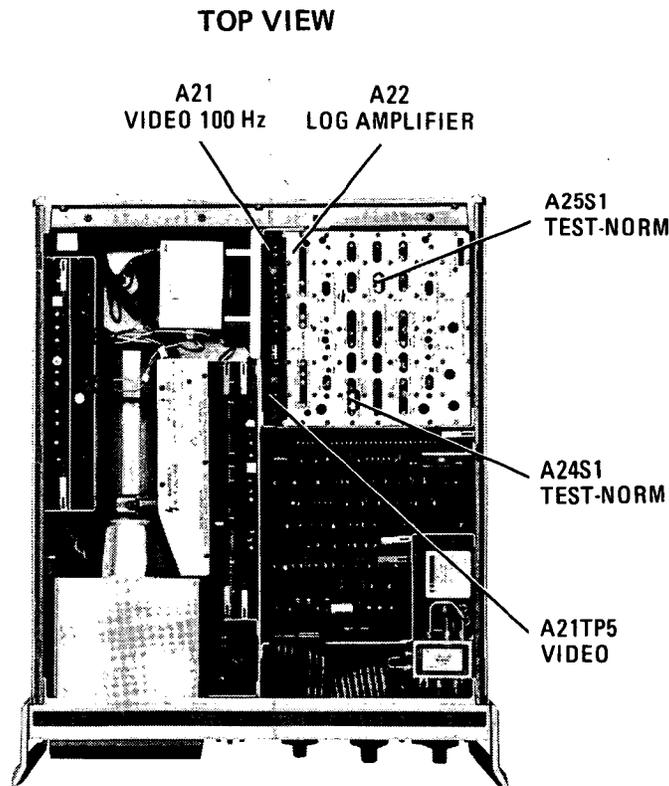

Figure 5-17. Log Amplifier Adjustment Locations
8. Adjust A22R23 SLOPE for a reading of  $800 \pm 1$  mV, plus offset recorded in step 4, as measured at A21TP5 (Figure 5-17).